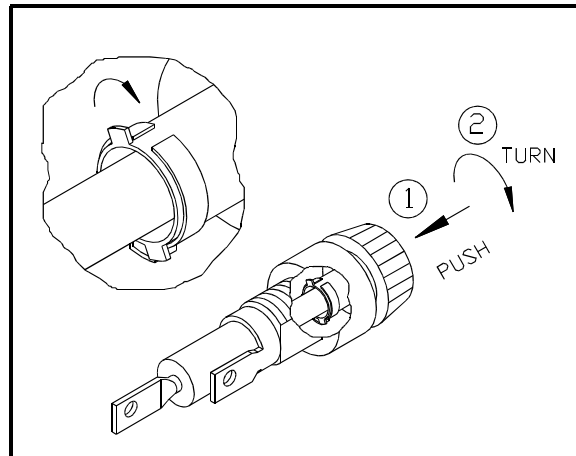

Fig.14-2
2. Remove the original batteries. (see Fig 14-2)